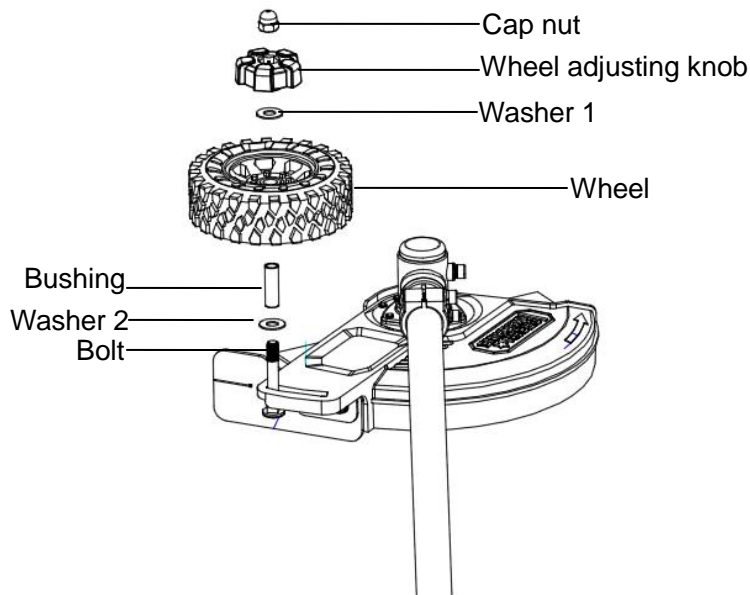

Fig. 31
3. Loosen the wheel, adjust the knob, and remove it. (Fig. 31)
4. Remove the cap nut, wheel adjusting knob, washer 1, wheel, bushing, and washer 2 from the bolt. Check and replace them if they are worn. (Fig. 31)